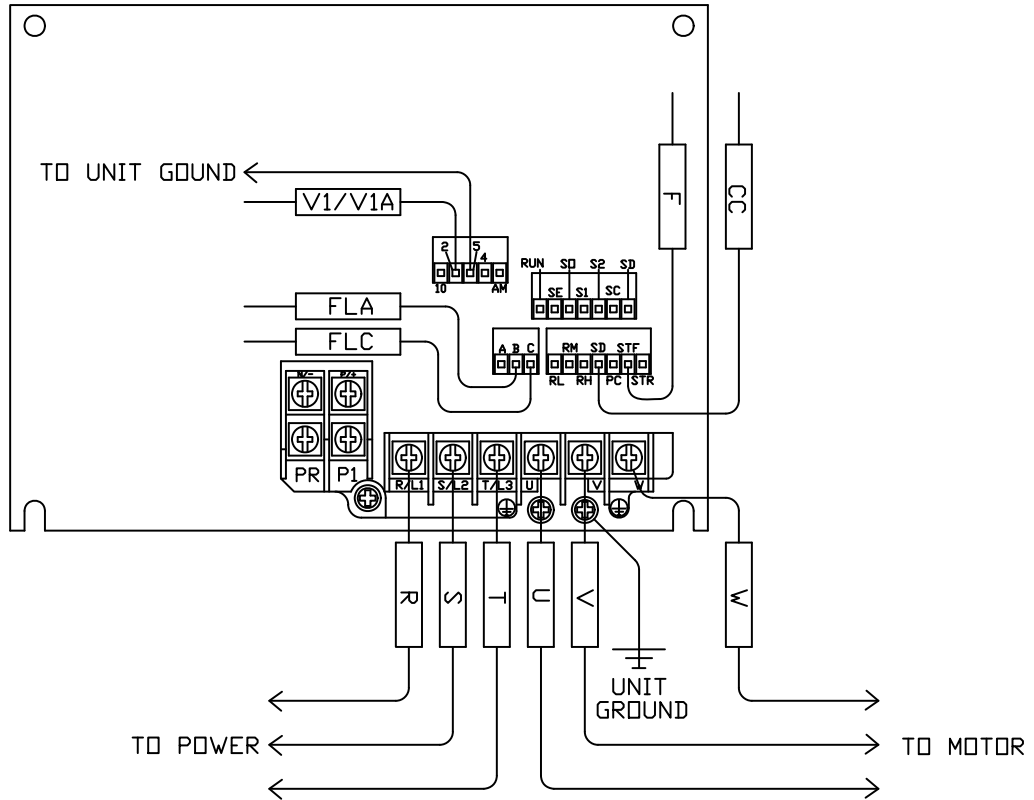

FIGURE 4
- 1- Make low voltage wiring connections using table 2 as a cross reference. See figure 4 through 7.
- 3- Make power wiring connections as shown in figures 4 through 7.